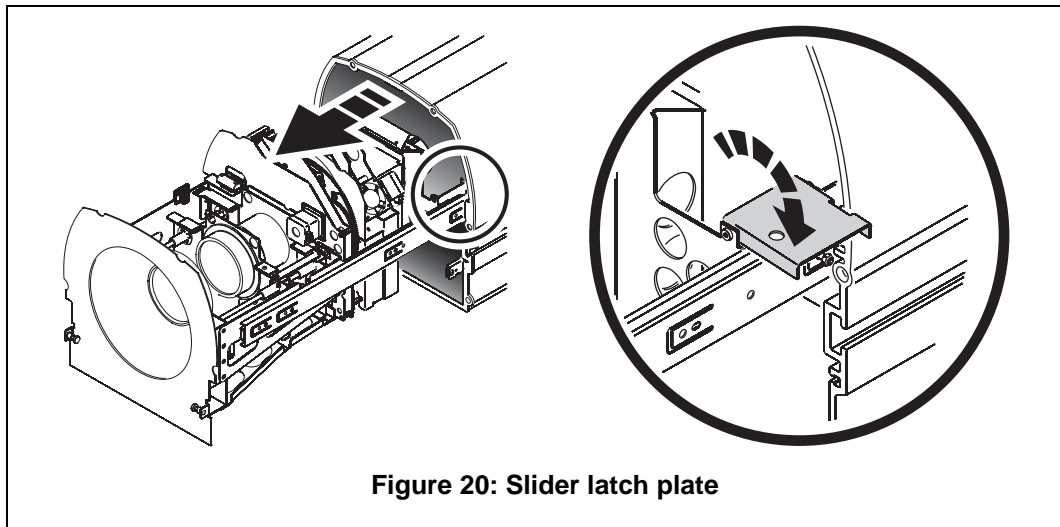

Figure 20: Slider latch plate
4. See Figure 20. Flip open the latch plate to lock the assembly in the out position.